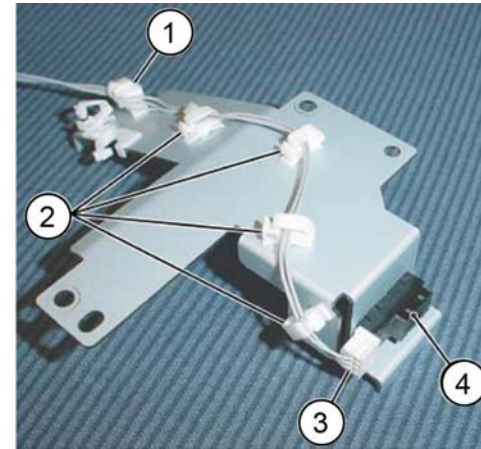

Figure 5 Stack height sensor removal
10. Remove the stack height sensor, **Figure 5**:
- a. Remove the clamp (1).
- b. Release the harness from the clamps (2).
- c. Disconnect the connector (3).
- d. Remove the stack height sensor (4) from the bracket.